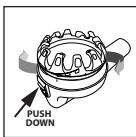
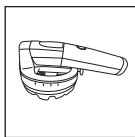

Fig. 3
Fig. 4
3. Once aligned, push the power handle down (Fig. 3) and then firmly push forward until you hear a click (Fig. 4).
3. Then pull the power handle up from the rotary clipper attachment (Fig. 3).
2. Depress down and hold the comb guide locking mechanism button (Fig.3).
3. When both grooves are aligned rotate the comb guide clockwise until it sits flush with the base of the gold section of the rotary clipper attachment (Fig.3).
4. **Make sure that the comb guide locking mechanism is in the locked position and the comb guide is securely in place before using the circular rotary clipper attachment (Fig. 4).**